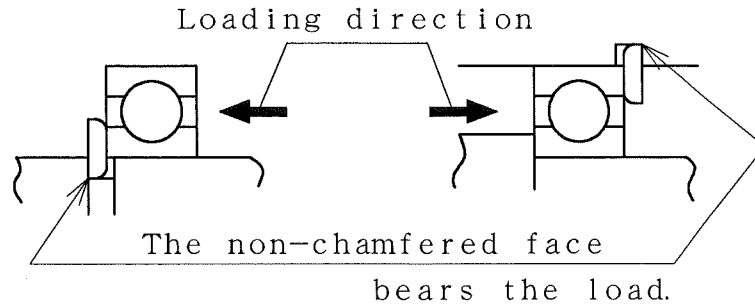

Fig. 11
- 1) Always replace Split pins (16), (22), (41) with new ones when removed. See the disassembly drawing for the trolley section (on Page 34).
- 2) Assembling direction for Retaining rings (See Figure 11)